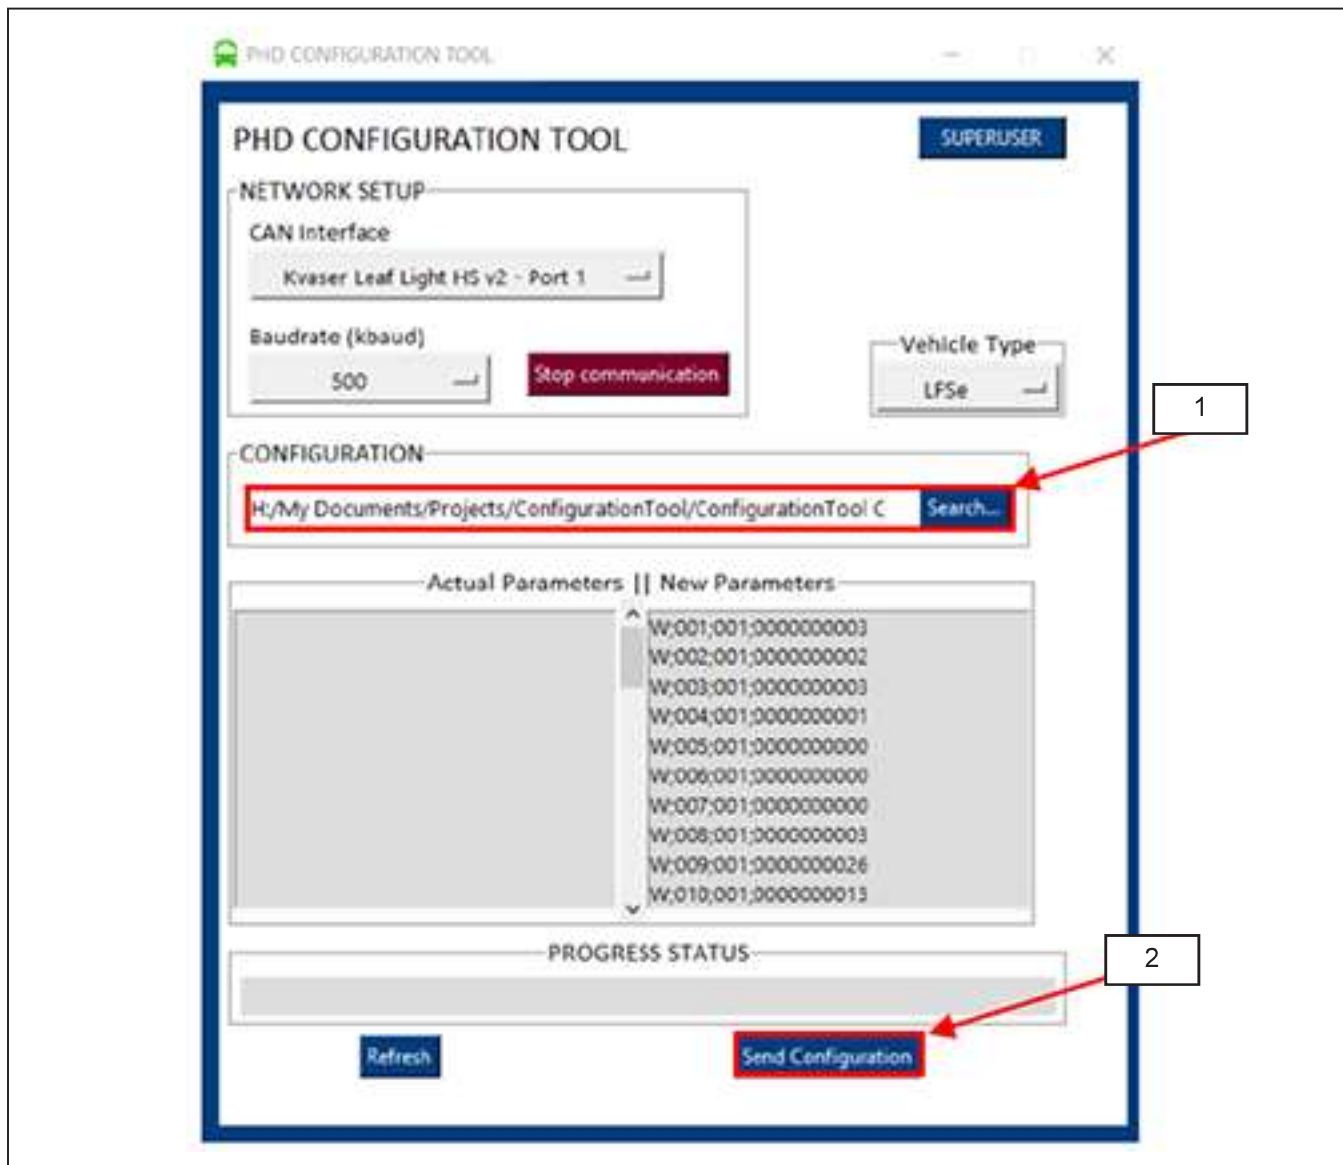

Figure 18 - Configuration Menu for Parameter Files Download
- 1.25. In the **CONFIGURATION** section select (1) the required parameter program (see Appendix A) for the PHD operator display. See Figure 18.
- 1.26. Click the **Send Configuration** (2) button to start downloading the parameter file. See Figure 18.